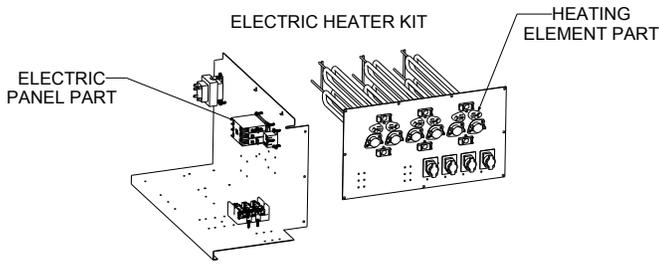
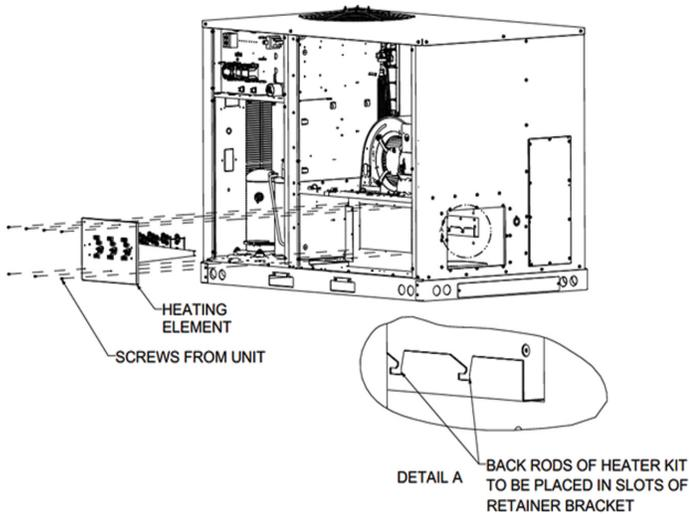

Figure 2
Figure 3
5. Install heating element part of the heater kit (Figure 2) in the heater box using screws from heater box cover. Ensure the elements are positioned in the retaining bracket as shown in Figure 3. It may be necessary to remove the horizontal supply cover to observe the bracket. The heater box cover can be discarded.